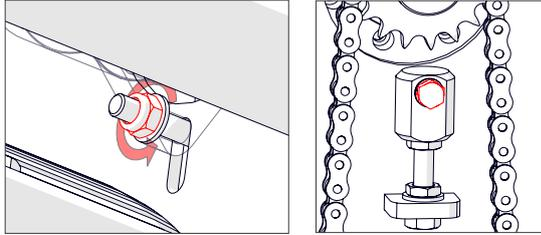

Fig. 15C - Loosen slightly the tensioner block/motor nut.
4. Loosen slightly the central nut supporting the tensioner block/motor [2 x 13 mm spanner] (Fig. 15C).